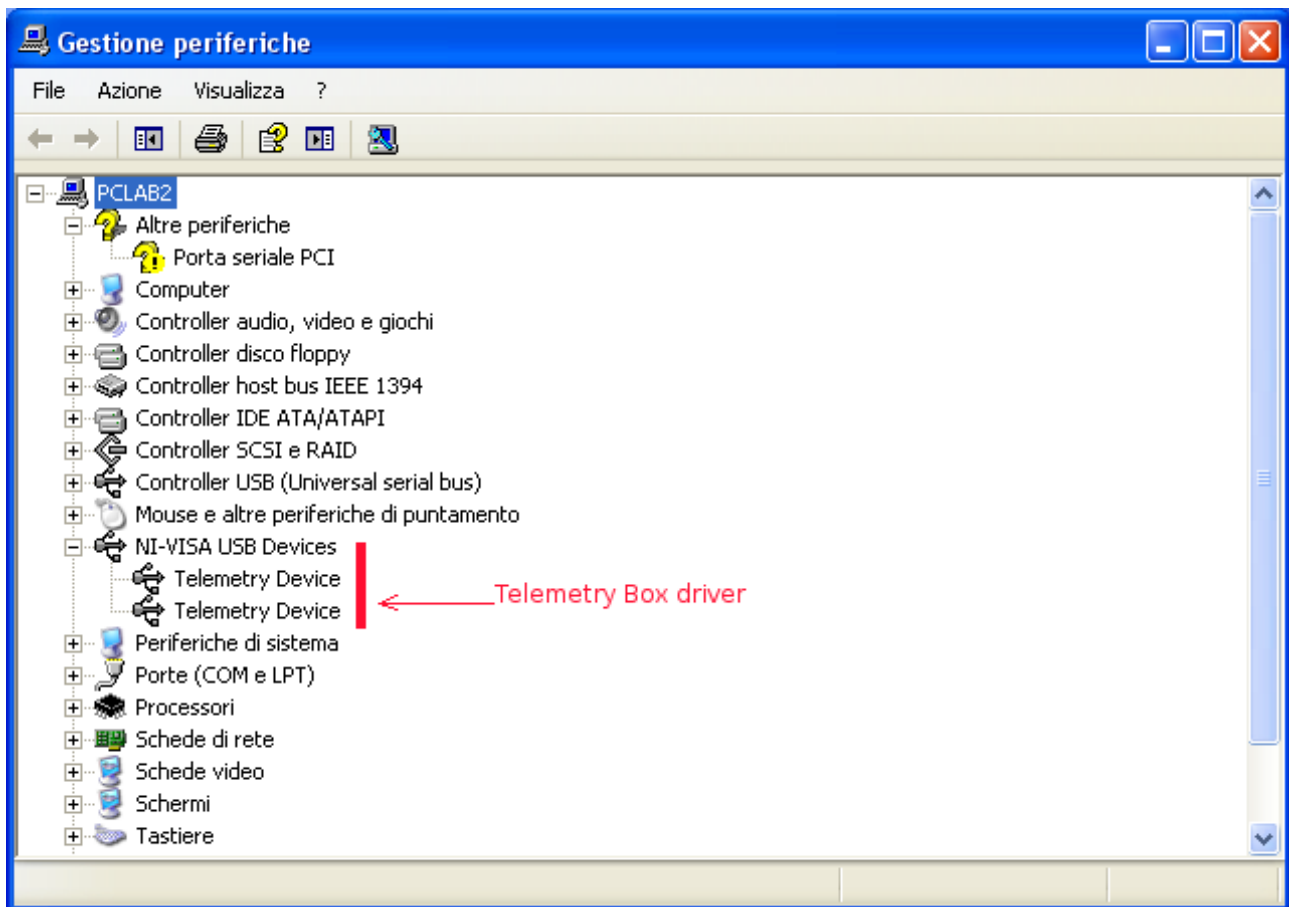

Figure 36: Telemetry box PC Interface driver installation's result check.
8. in order to verify that the installation has been successful, go into the "*Device manager*" of the PC and verify that, with the *Telemetry Box* connected to the PC, the devices shown in figure 36 appear.